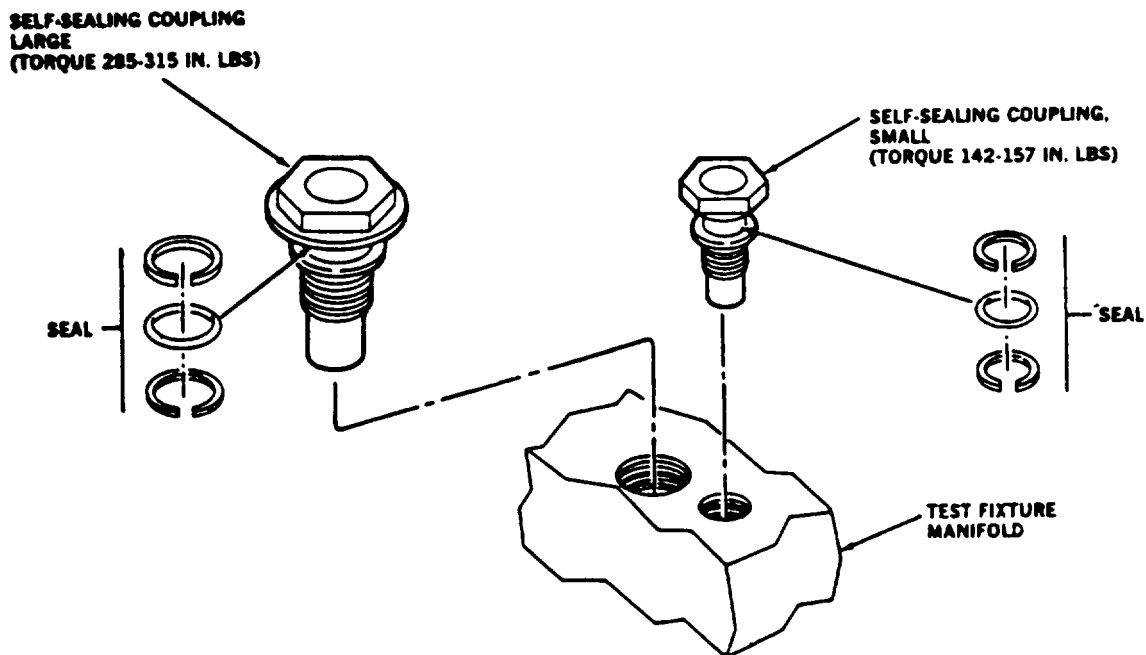

Figure 4-8. *Female Quick-Disconnect Couplings Removal and Replacement*
- a. Use clean, low-lint cloth (item 4, App D), to clean installed couplings and manifold. Flush with Clean All D (item 5, App D).
- b. Remove self-seal coupling and seal from Test Fixture manifold, Figure 4-8.
- c. Coat new seals and coupling threads with hydraulic fluid (item 3, App D), before installing.